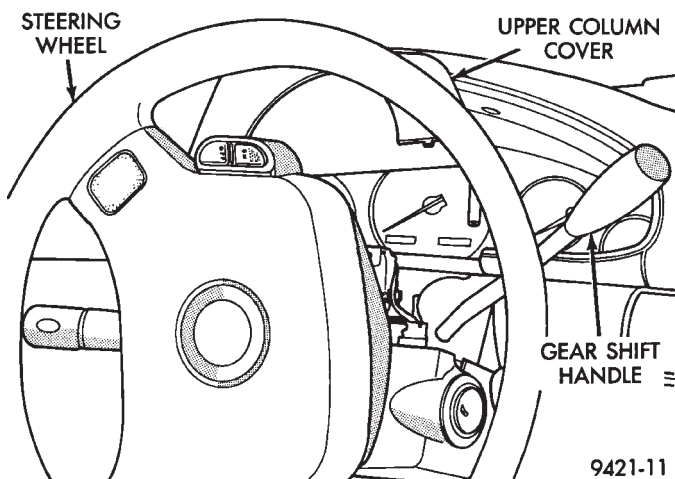

Fig. 15 Upper Column Removal
(3) Tilt column down and remove upper half of column cover (Fig. 15).